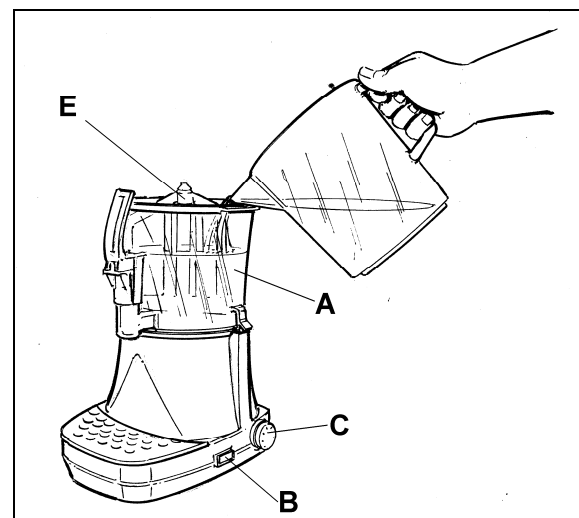

Fig. 4
- Lift up the lid and pour the product into container (A) and turn the machine on at switch (B). Put the thermostat (C) at the maximum temperature (see fig.4). Wait for the product to reach the right temperature to be dispensed.
- Turn off the machine with switch (B) (see fig. 4) and unplug it at the mains.